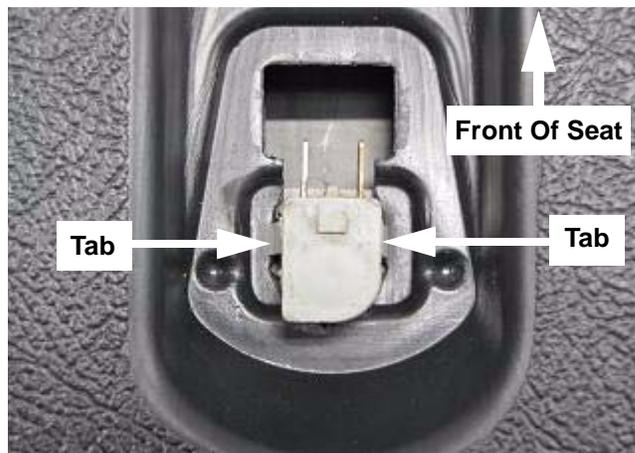

FIGURE 11
18. While pushing the N.C. snap mount switch down pull the switch to the rear and then pull upward until the two (2) tabs snap outwardly locking the switch in place. See Figure 11.